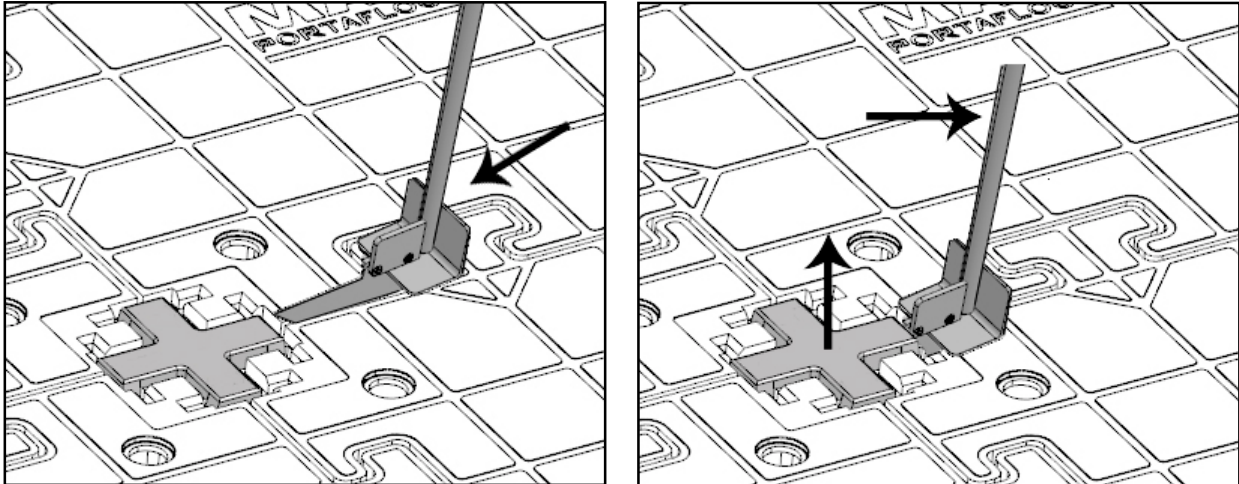

Figure 5
3. Continue rotating the handle until the corner lock disconnects from the panels (see Figure 5).